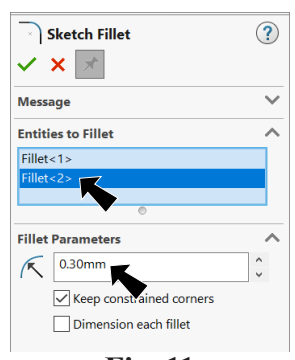

Fig. 11
Step 2. In the Sketch Fillet Property Manager set: under Fillet Parameters, **Fig. 11**